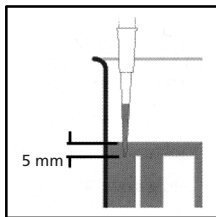

Figure 6
- Immerse the pipette tip approx. 5 mm into the liquid, make sure that the pipette remains in a fully vertical position (Figure 6).